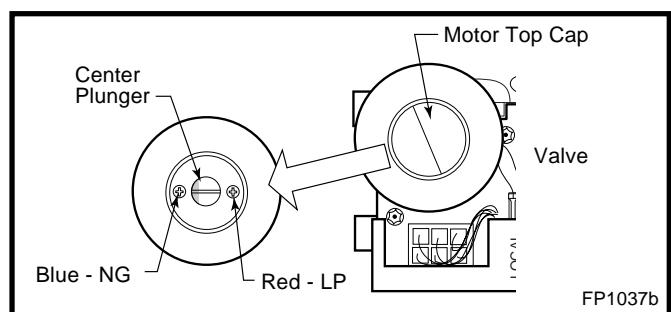

Fig. 65 Depress and turn center plunger.
18. Remove motor top cap. Depress and turn center plunger until arrow points to correct screw. Red for LP and Blue for NG. **NOTE:** Plunger will "snap" into NG position when arrow is close to blue screw. It will not "snap" at LP (Red) position. (Fig. 65)